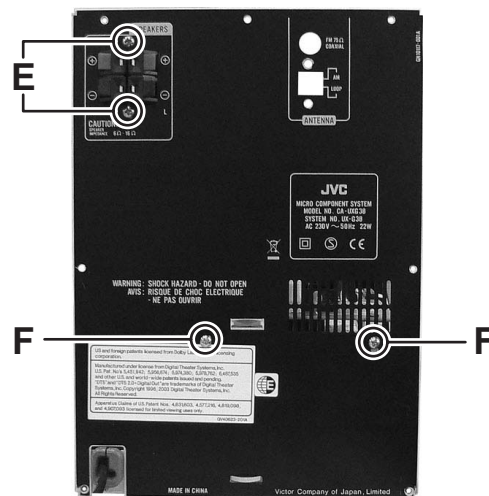

Fig.8
### 3.1.4 Removing the Rear Panel (See Fig.8, 9)
- (1) Remove the two screws **E** attaching the Speaker terminal. (See Fig.8)
- (2) Remove the two screws **F** attaching the Power board assembly. (See Fig.8)